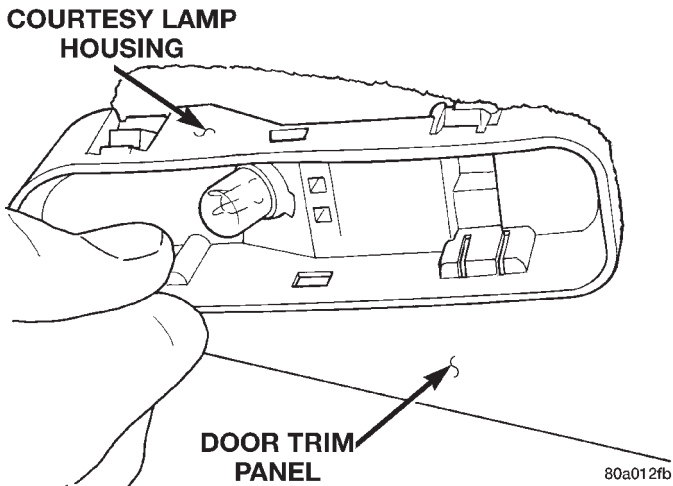

Fig. 8 Courtesy Lamp
- (2) Pull courtesy lamp from door trim panel (Fig. 8).
- (3) Disengage wire connector from courtesy lamp bulb socket.
- (4) Separate courtesy lamp from vehicle.
- (1) Position courtesy lamp from vehicle.
- (2) Engage wire connector to courtesy lamp bulb socket.
- (3) Push courtesy lamp into door trim panel (Fig. 8).
- (4) Insert front edge of courtesy lamp lens to lamp housing.
- (5) Snap lamp lens into lamp housing.